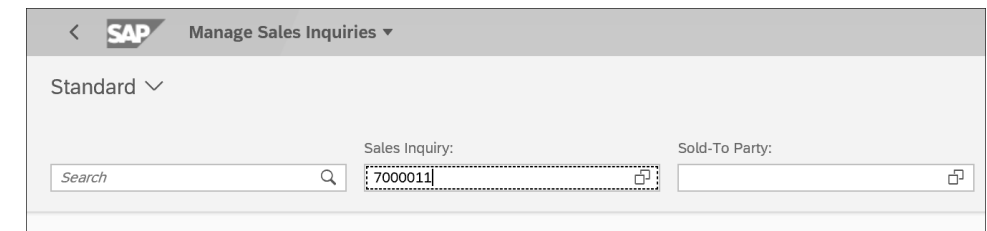

Figure 4.37 Manage Sales Inquiries App
1. Launch the Manage Sales Inquiries app, and input the inquiry document number to be changed or displayed in the **Sales Inquiry** field, as shown in Figure 4.37. Press **Enter**.